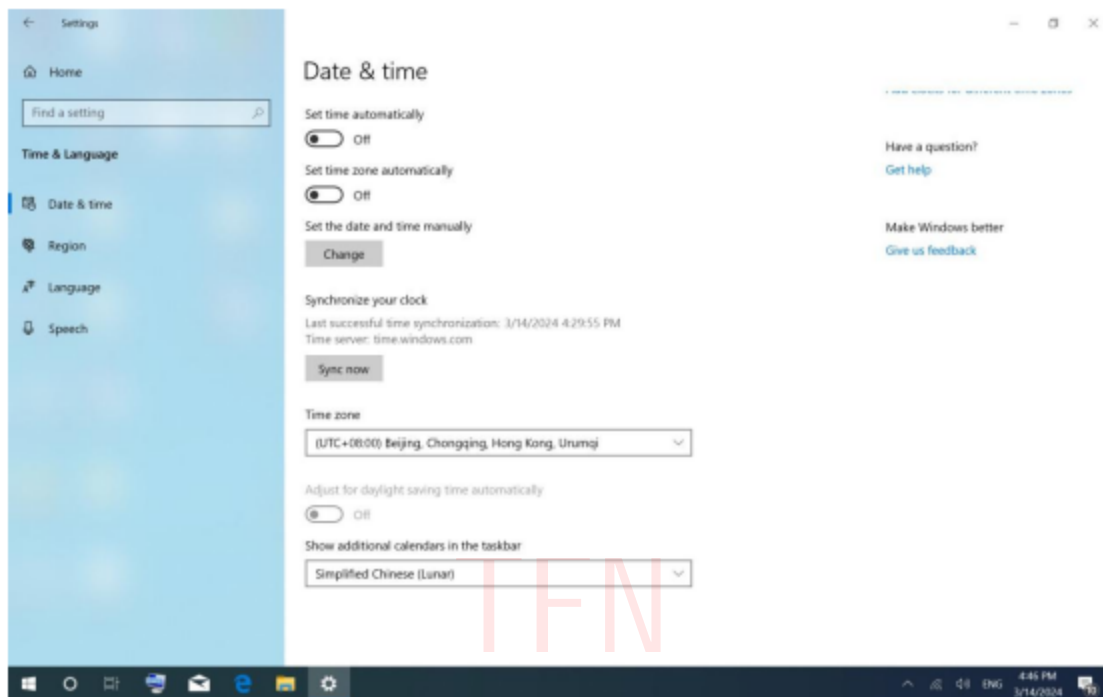

Figure 3.4 Date / Time Properties Dialog Box (Date & Time Property Page)
Step 1. Press [Start]> [Control Panel]> [Date and Time] to enter the date / time as shown in Figure 3.4